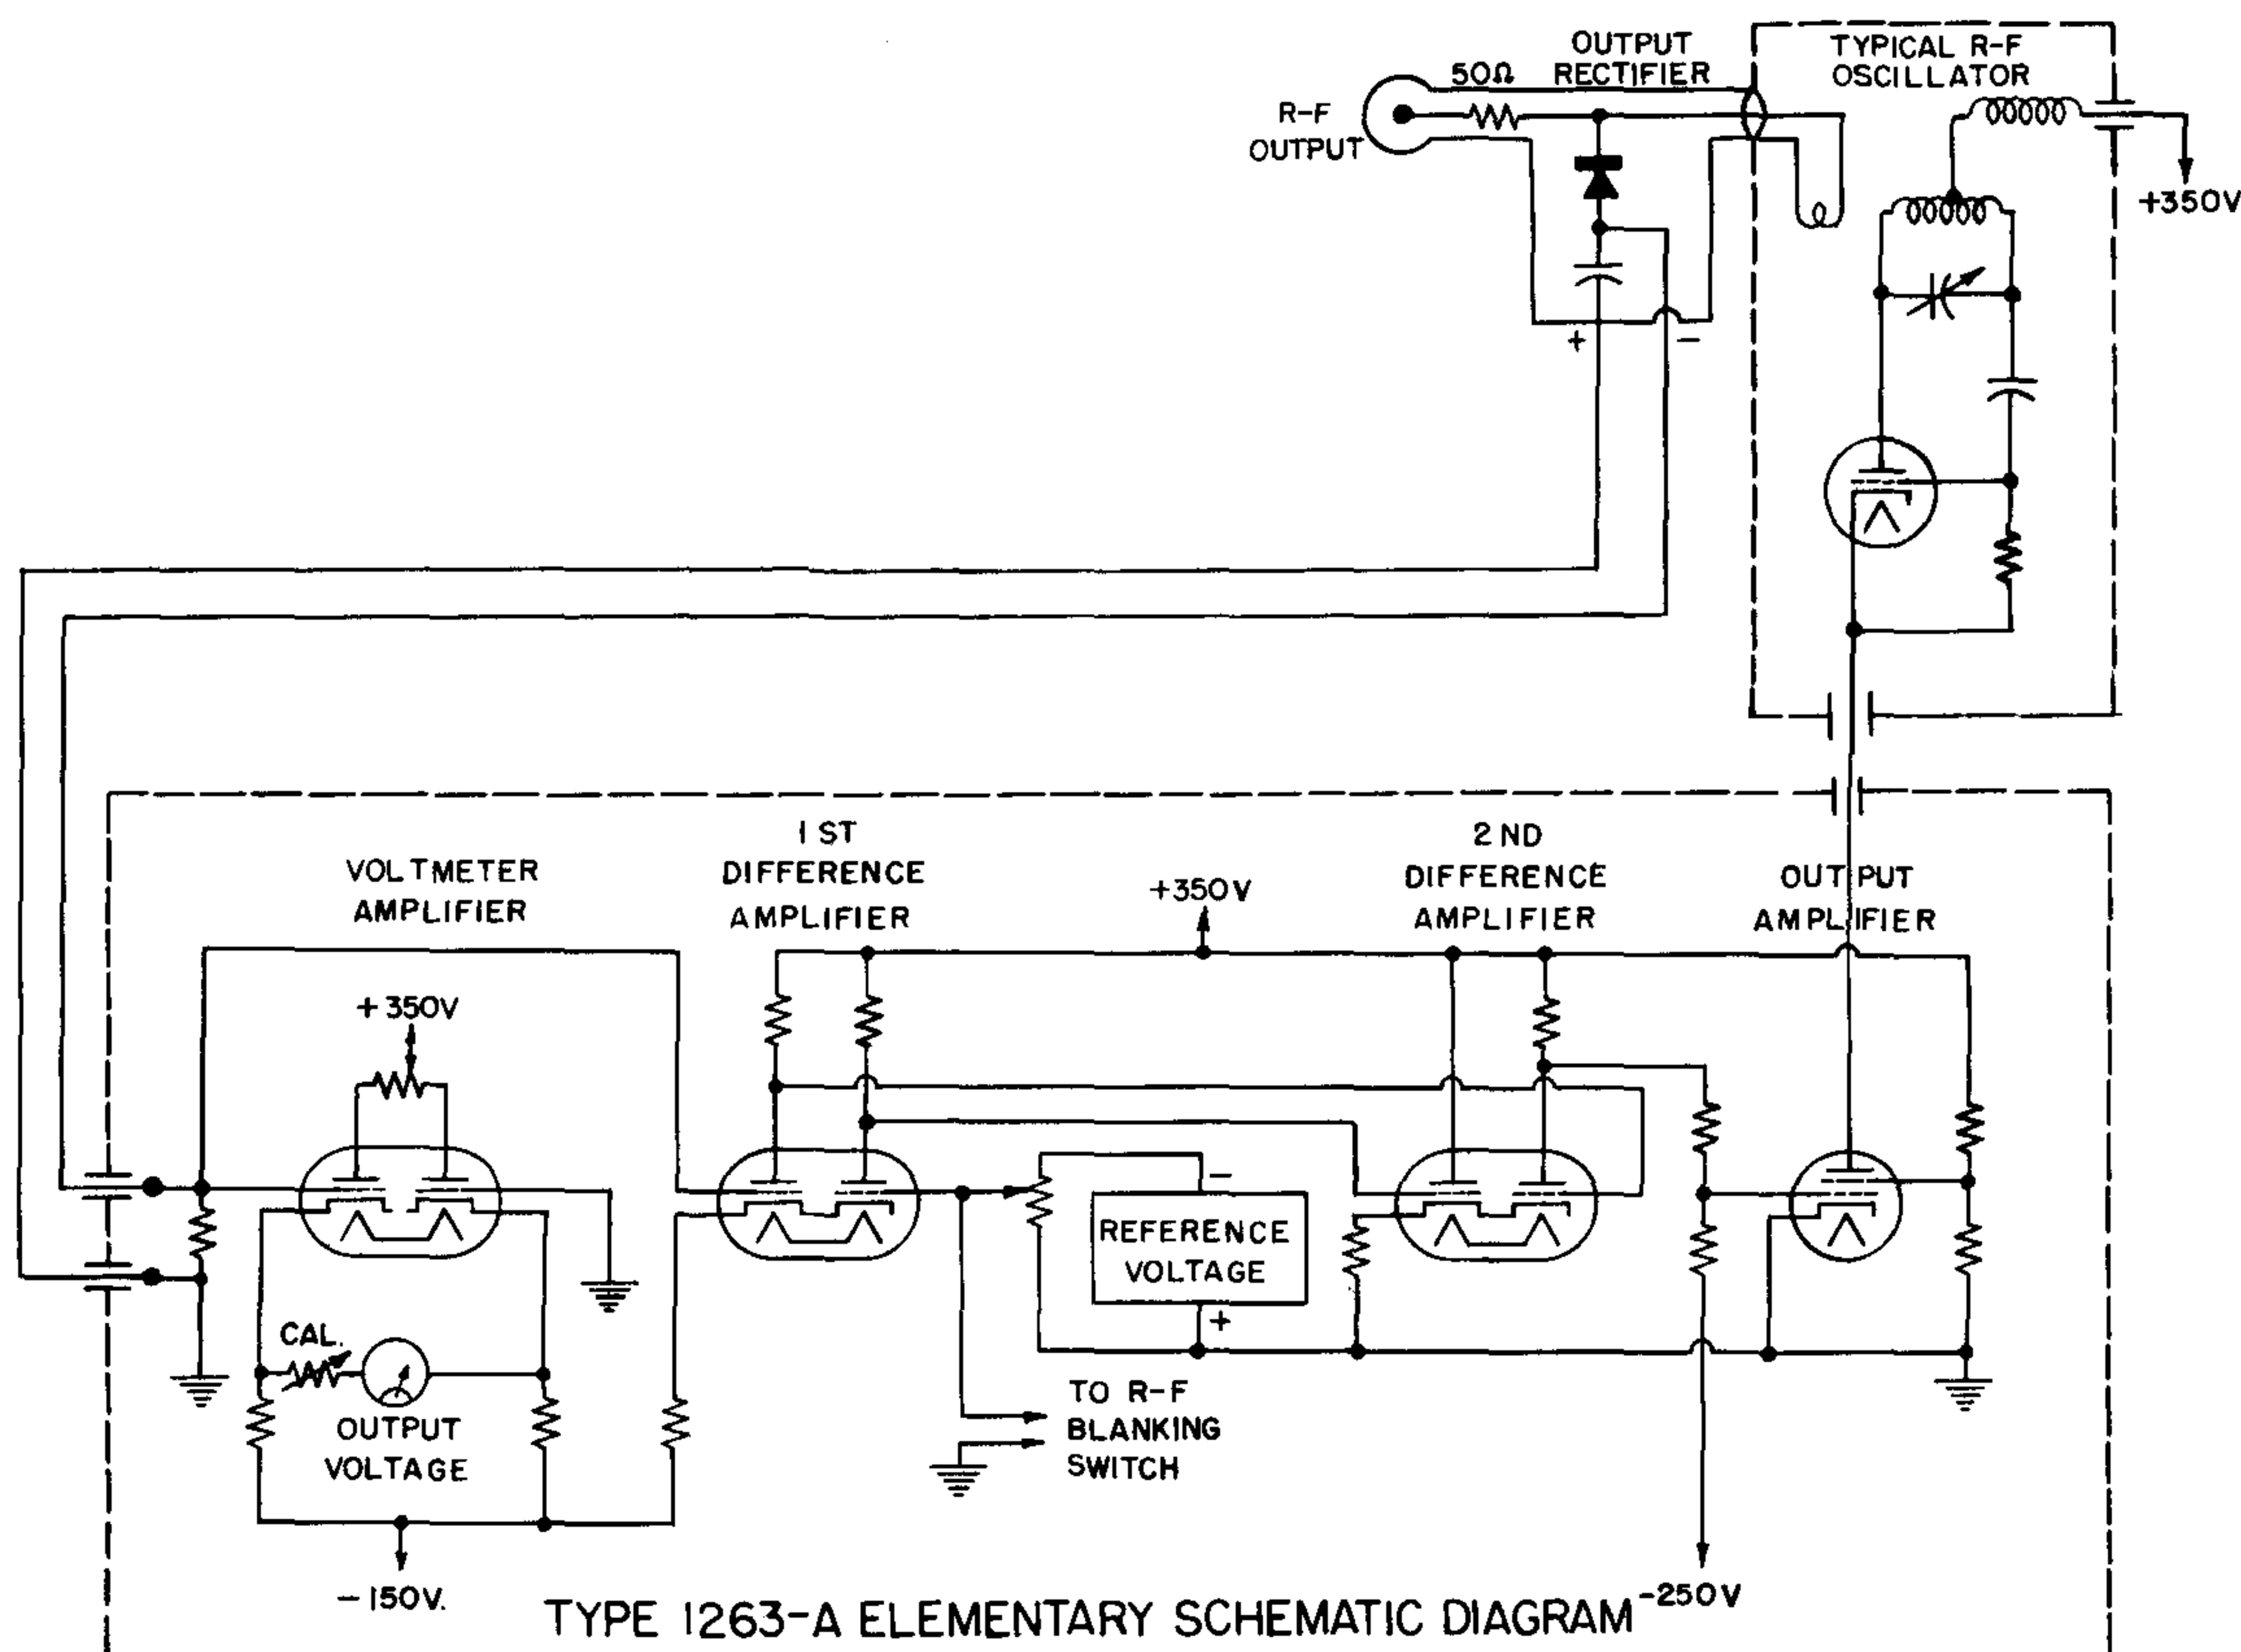

Figure 3. Elementary Schematic for Type 1263-A Amplitude-Regulating Power Supply.
2.2 CIRCUIT. The elementary schematic diagram (Figure 3) illustrates the principles of operation of the Power Supply. The output rectifier develops a negative d-c potential proportional to the r-f amplitude at the oscillator output. This potential is applied to the voltmeter amplifier and to one grid of the first difference amplifier. An adjustable negative reference potential is applied to the other grid of the first difference amplifier. An increase in the negative potential developed by the output rectifier, with respect to the reference potential, is amplified by the two difference amplifiers, and appears as an increased negative potential at the output amplifier grid. This reduces the plate current supplied to the oscillator. Conversely, a decrease in output produces an increase in plate current applied. A closed-circuit feed-back system is thereby estab-